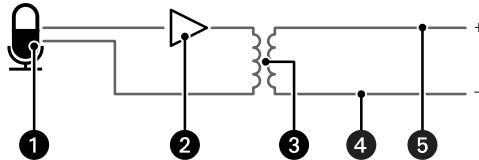
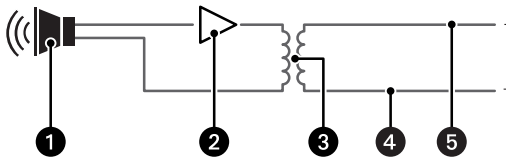

Figure 4. Line-In Audio Wiring
Figure 5. Line-Out Audio Wiring
2. If you are installing an IM10-E or IM10-V Series model, connect the necessary wiring for audio (refer to Figure 4 and Figure 5).